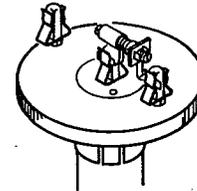

Figure 5-3. Test Component Installed for Checking High Impedance Ranges
- f. Install accessory 00601A (Component Mounting Adapter) and mount a small trimmer capacitor (-hp- Stock No. 0132-0005). See Figure 5-3. Adjust trimmer for OHMS Meter reading of .95 (95% of F. S.) (on 1K RANGE)